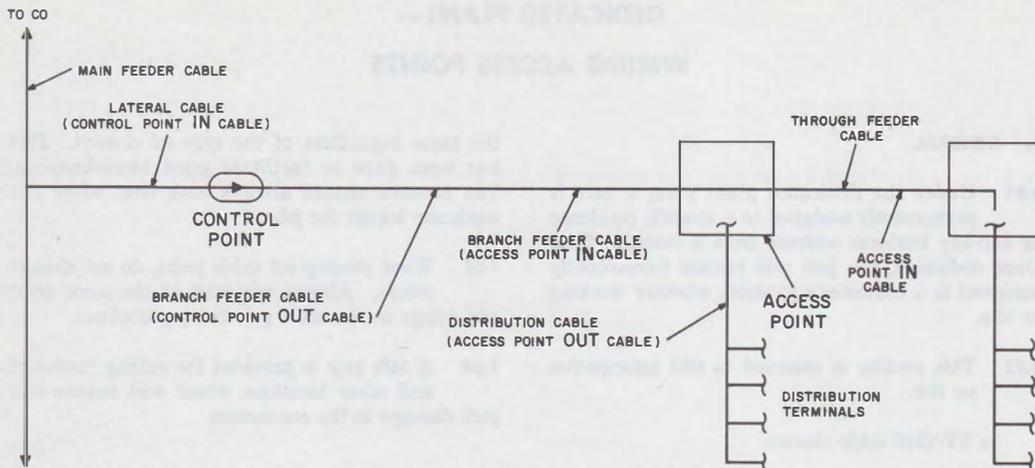

Fig. 1—Simplified Dedicated Plant Distribution System
2.01 *Access Points* provide a means of connecting pairs in distribution cables to spare pairs in main or branch feeder cables. Cables entering access points from the central office or a preceding control point are termed *IN* or *EXPRESS* cables (Fig. 1). Cables leaving access points toward subscribers are termed *OUT* cables. Cables which originate in the access point assume the address of the access point, and the cable pair numbers assigned to the pairs in these cables begin at one (1) and continue up to the total number of pairs originating at this location. *EXPRESS* feeder cables leaving access points do not change designations.